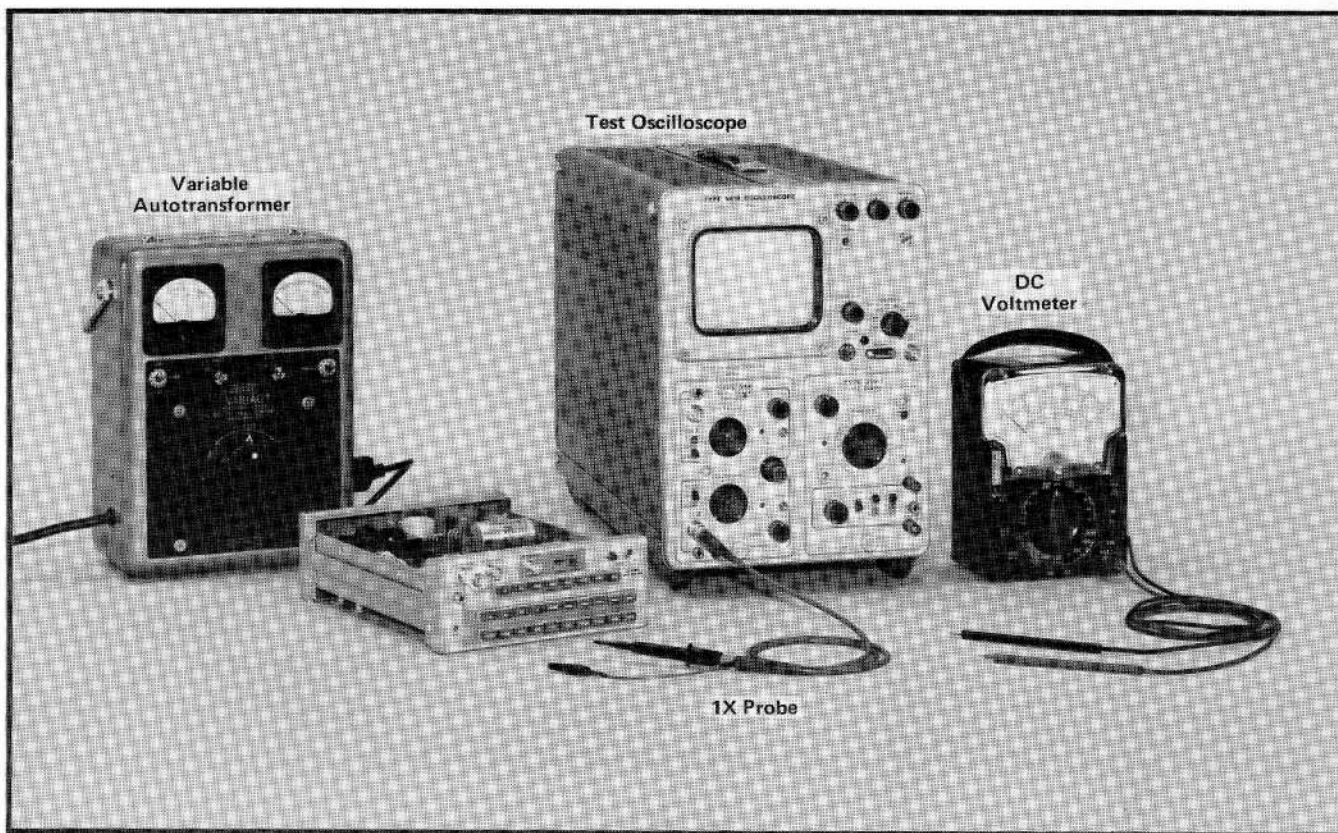
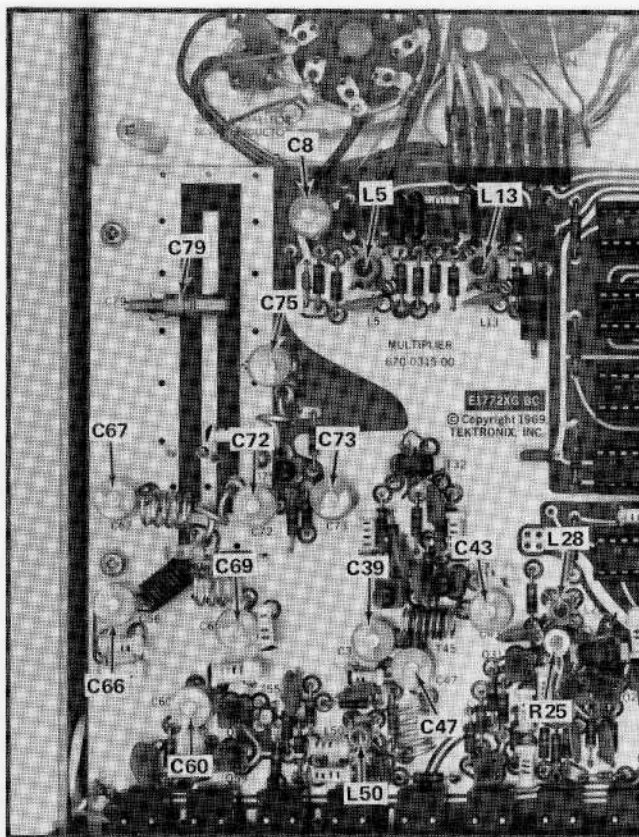

Fig. 5-1. Initial equipment setup for checking and adjusting power supply.
Fig. 5-6. Location of adjustments for multipliers.
- Equipment setup is shown in Fig. 5-1.
- Test equipment setup is shown in Fig. 5-1.
- 1) Set R25 (Fig. 5-6) midrange.
①
- ADJUST—C39 and C43 (Fig. 5-1) simultaneously for maximum amplitude and flatness of the marker display. Adjust C47 and L50 for maximum amplitude. Check modulation percentage as described in step 5f. Modulation percentage should not exceed 4% at 20°C. (Modulation percentage is a maintenance check and not a specification.)
- ADJUST—C60 (Fig. 5-6) for maximum amplitude of the 200 MHz (5 ns) sine-wave display. Check intermodulation percentage as described in step 5f. Intermodulation should not exceed 4% at 20°C. (Maintenance check only.) If intermodulation is excessive, adjust L50 a slight amount for optimum flatness.
- ADJUST—C66, C72, and C79 (Fig. 5-6) for maximum signal amplitude. Adjust C67, C69, C73 and C75 for optimum flatness and amplitude. Adjustments C66, C67, C69 and C72 all interact. Do not move these adjustments very far from their original setting. Because of interaction, a number of